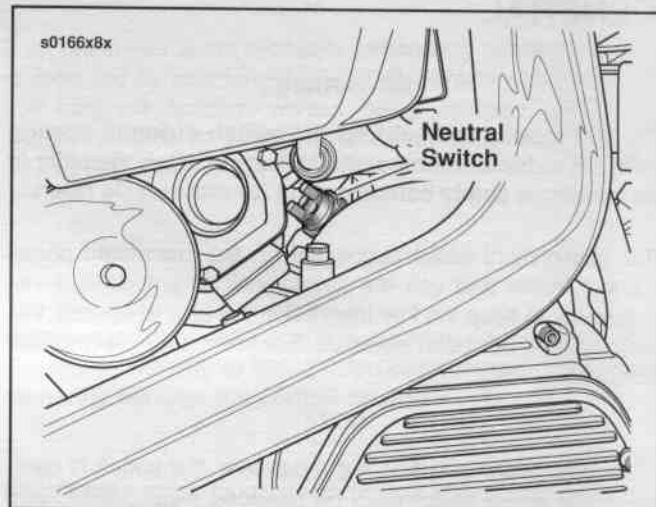

Figure 8-15. Neutral Switch Location
2. See Figure 8-15. Using fingers and flat tip screwdriver, remove connector(s) from switch stud(s).